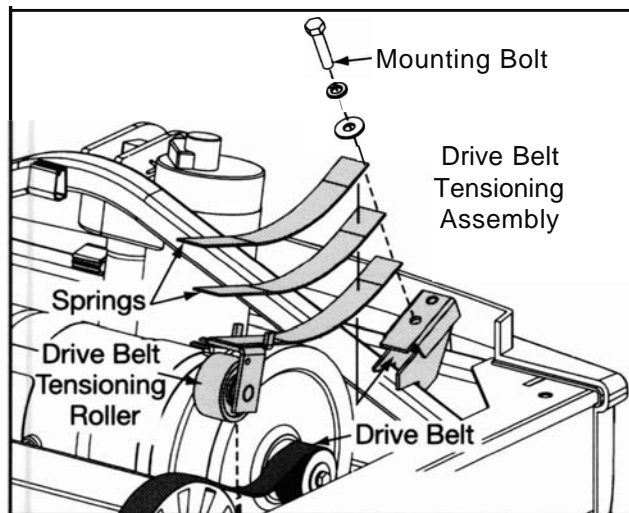

Figure 5
- A. Locate the mounting bolt on top of the drive belt tensioning assembly. See Figure 5.